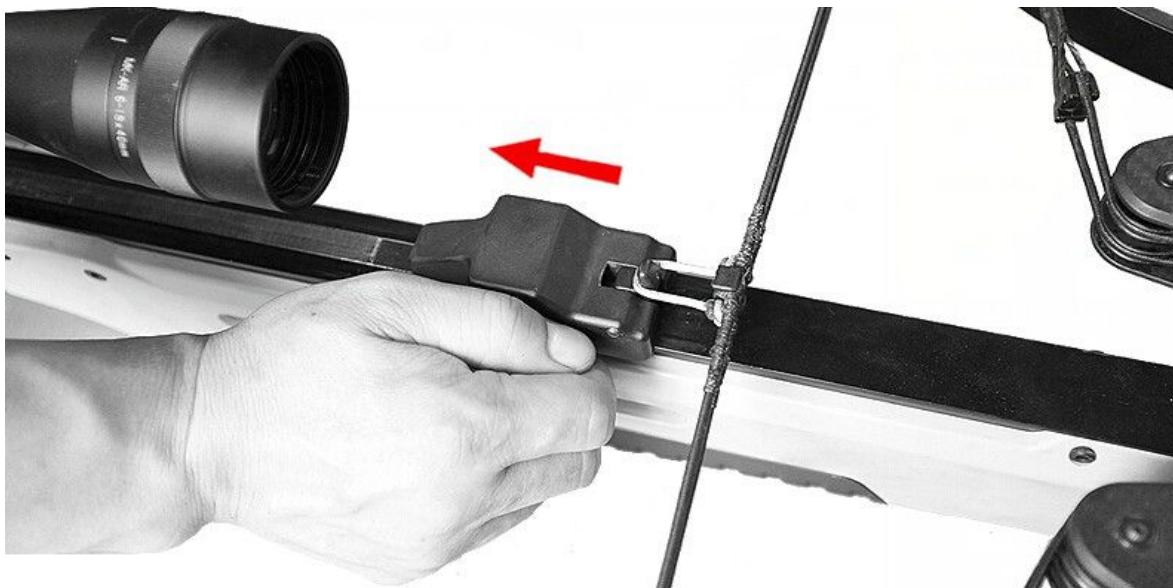

Figure.6
3.Pull the release assembly make the D ring tension.(Figure 6).